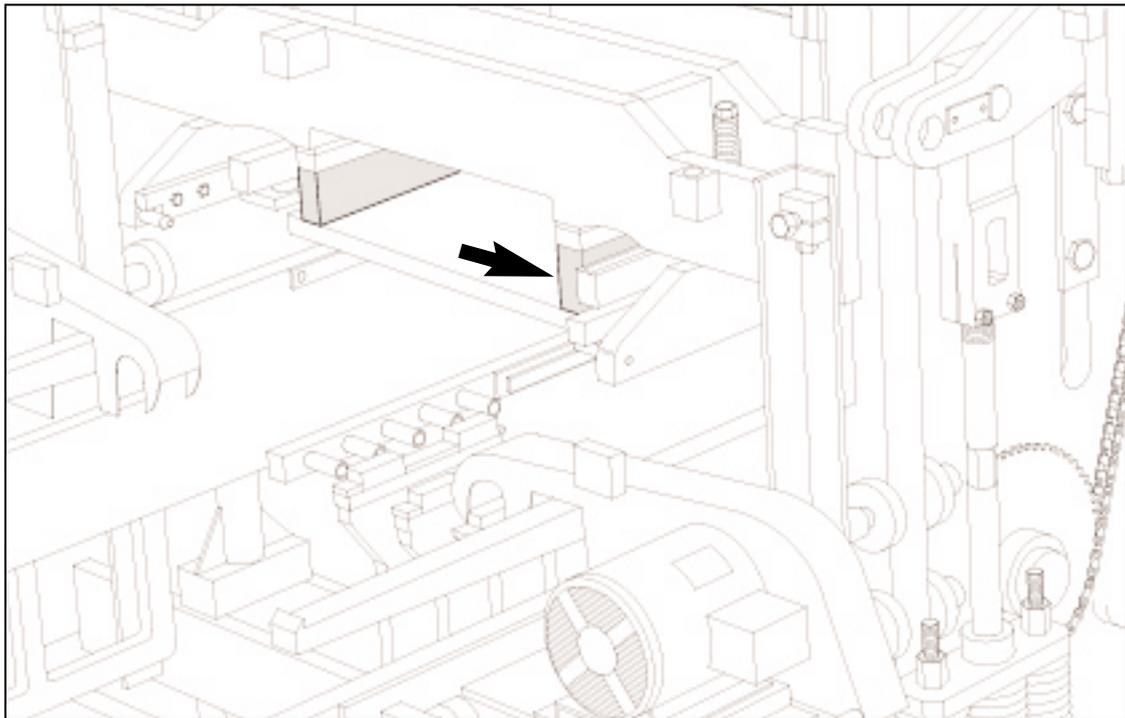

Figure 4.66 95mm (3 3/4") BLOCKING UNDER STRIPPER HEAD FRAME.
4.4.9 The SUPERPAC is now ready for the installation of the mold assembly. Follow the directions for installing an attachment in section 5 of this manual. When installing the stripper head use 279 mm (11") long bolts (**part #087136**) and insert 95mm [3 3/4"] of blocking in addition to the 38mm [1 1/2"] blocks already affixed to the stripper head frame (figure 4.66).